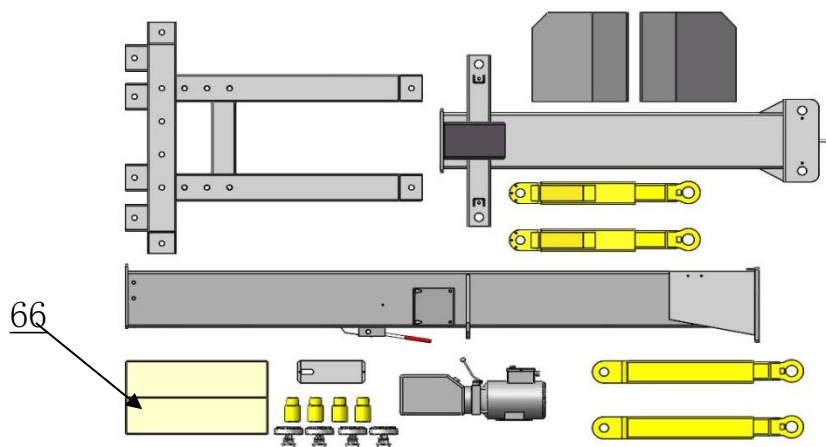

Fig.8
3. Move aside all the parts and check according to the shipment parts list (See Fig.8)